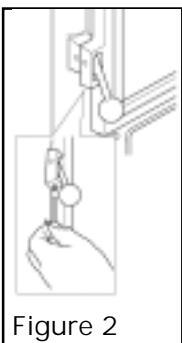

Figure 2
1. The appliance window is secured by a locking screw. Remove the screw with the Allen key supplied with the appliance. See figure 2. Open the window fully.